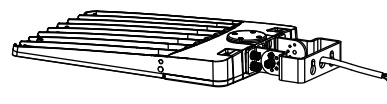

Figure 6
- Step 2: Install the bracket on the fixture (Figure 6)